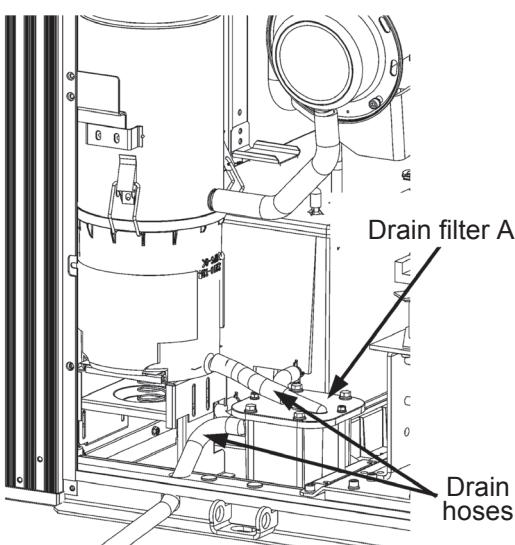

Figure 1 Removing the drain house
1) Remove the drain hoses (2 hoses) that are attached to the drain filter A (Figure 1).